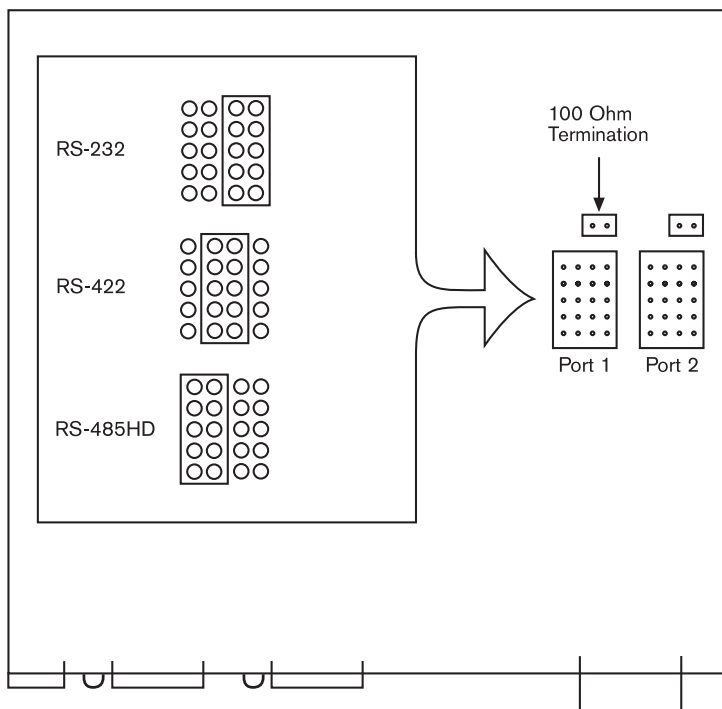

Figure 2. Jumper Locations and Settings
3. Lift the cover up and off the unit. Use Figure 2 as a guide to locate the two ganged headers on the printed circuit board (PCB).
5. If you are enabling the RS-422 or the RS-485HD interface on a port, you may also enable/disable 100 ohm termination of the differential receive signal pair on that port. This termination is enabled by placing a jumper on the 2 pins adjacent to the ganged jumper for the port; see the location noted in Figure 2. Termination is enabled by factory default, that is, the jumper covers both pins for each port.